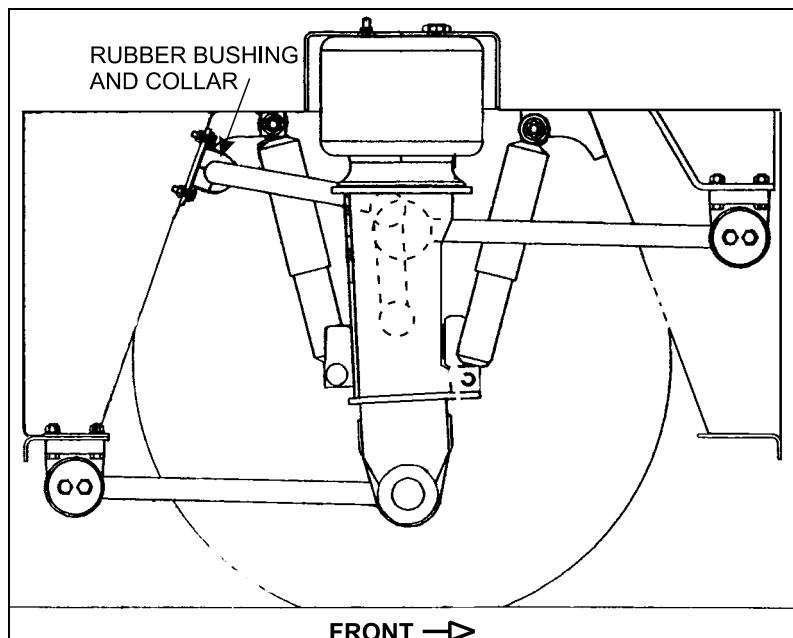

FIGURE 1
2. Unfasten the bolts and nuts securing the sway bar four rubber bushing collars (refer to fig. 1).